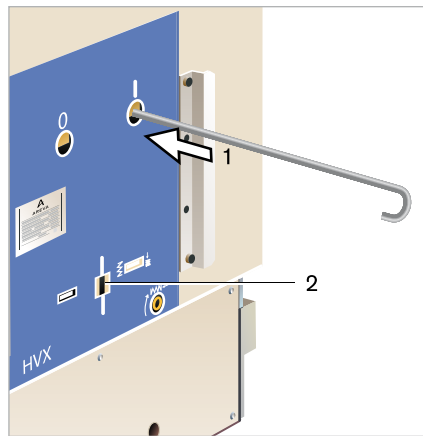

Fig. 43
- Press ON button (I) using the operating rod (Fig. 43, item1) or